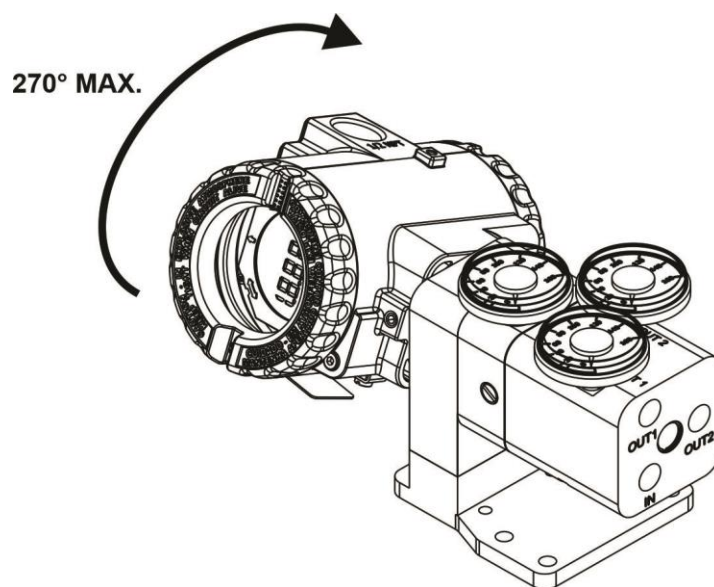

Figure 1.26– Electronic housing rotation
2. Rotates the electronic housing to the desired position. Observe if the flat cable is not excessively twisted. See figure 1.26.